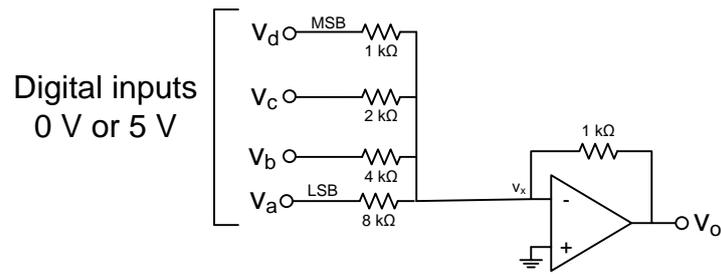

Figure 8: DA converter using summing op-amp.
- (5p) (e) A summing DA converter is shown in Figure 8. Which binary input has been applied to the DA converter if it has an output voltage  $v_o$  of 1.9V?